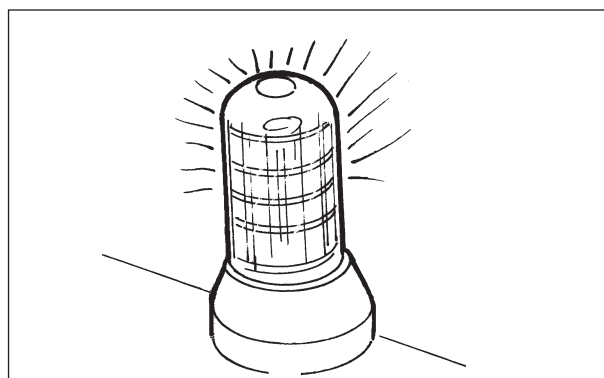

Fig.2-39
- Use the prescribed lights or, if required, the rotating beacon, both in the daytime and in the night-time (Fig.2-39).